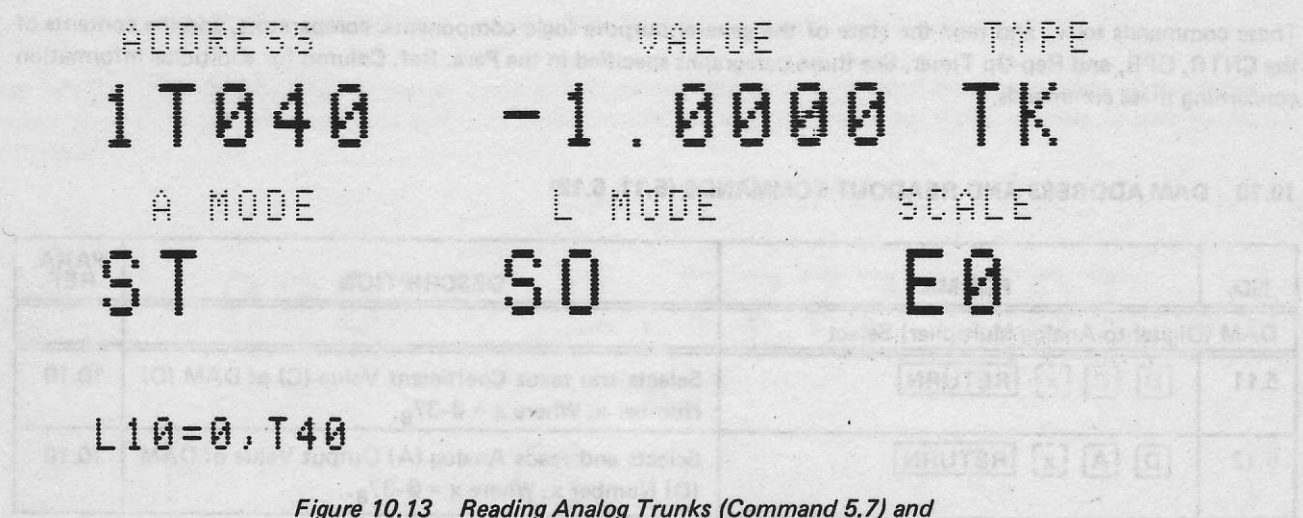

Figure 10.13 Reading Analog Trunks (Command 5.7) and Using Trunk Lines to Read Selector Switches (B Input)
2. Similarly, the output of the SW 1 is indirectly read to be -1 (Figure 10.13) when Flip-Flop 10 is reset (= set to 0 state) which causes the switch control to pass the B input variable through the switch: